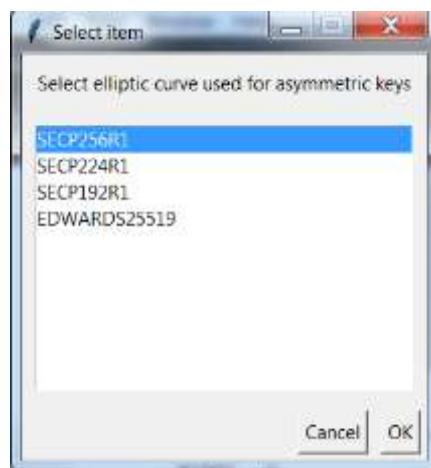
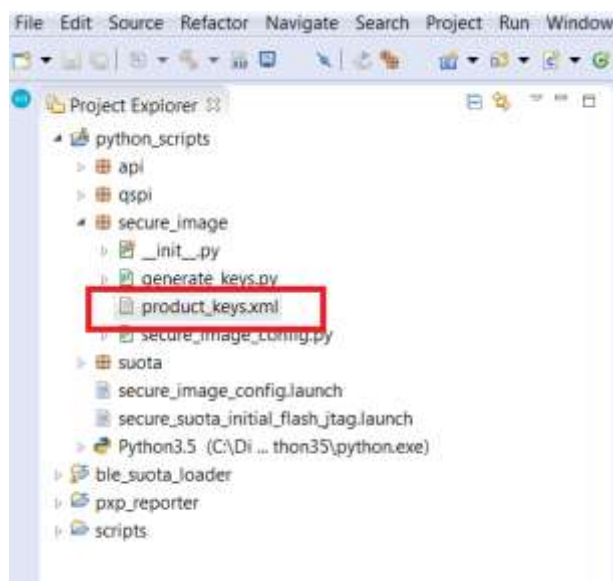
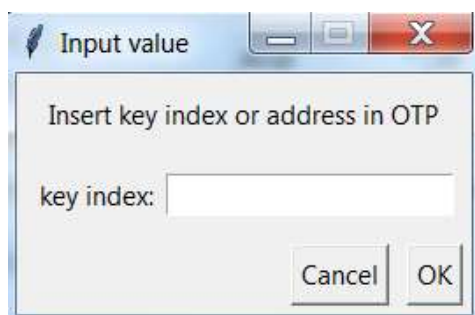
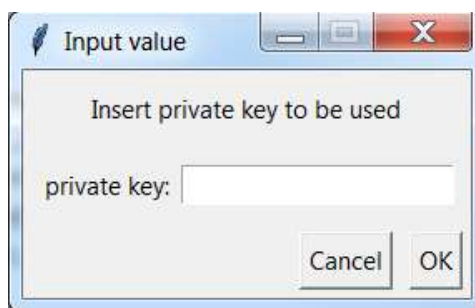

Figure 52: elliptic curves used for creating asymmetric keys
Figure 53: generated *product\_keys.xml* file
Figure 54: inserting private key index or address
Figure 55: inserting private key value
5. After selecting “Yes” in the previous dialog next window, Figure 52, pops out. User must decide, which type of elliptic curve would like to use for creating asymmetric keys. The curve will be used during an asymmetric key generation and image signature generation. After this procedure completes, `product_keys.xml` file will be generated in `python_scripts` project in `secure_image` subdirectory (Figure 53).
**Note 20** By selecting “No” in Figure 52 the user must provide the private key manually by inserting a private key index and its value as shown in Figure 54 and Figure 55.